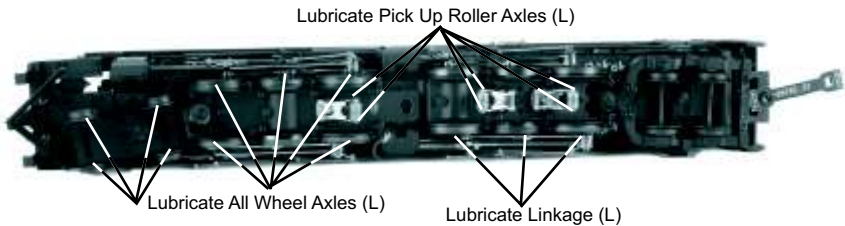

Figure 8: Removing the Body
2. Remove the Phillips screws (marked “GREASE”) located at each set of wheels and under pick up rollers (Fig. 8).